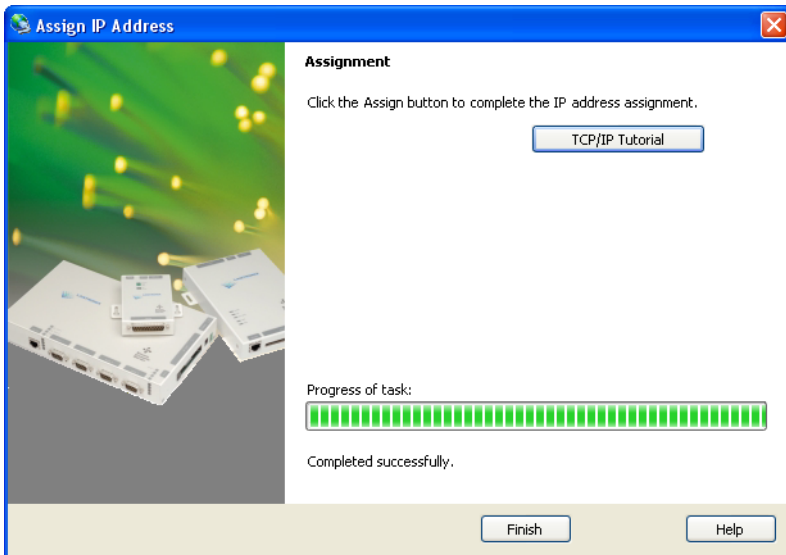

Figure 26: IP Address Assignment Successful
12. Click on the button. The IP Address assignment begins. This process may take up to a minute. Once the process is completed, the window will display “Completely successfully” at the bottom of the window (see Figure 26).